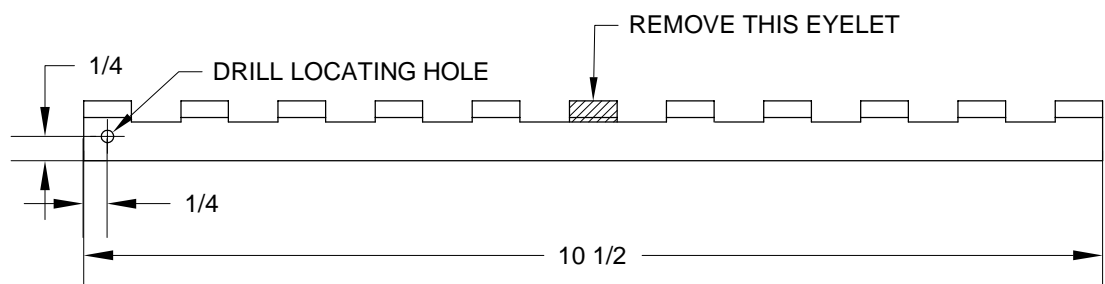

**FIGURE 3:**
**Step 3:** Separate the F-1237G Seatback Braces (shown unbent) by removing the joining material called out in Figure 3.